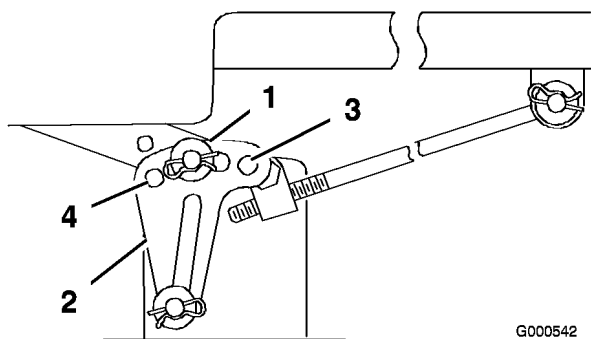

Figure 42
6. Remove the hairpin cotter and washer from the leveling bracket (Figure 42).
7. To level the blade(s), reposition the leveling bracket in a different hole and install the washer and hairpin cotter. (Figure 42). A front hole lowers the blade height and a rear hole raises its height. Adjust both sides as required.